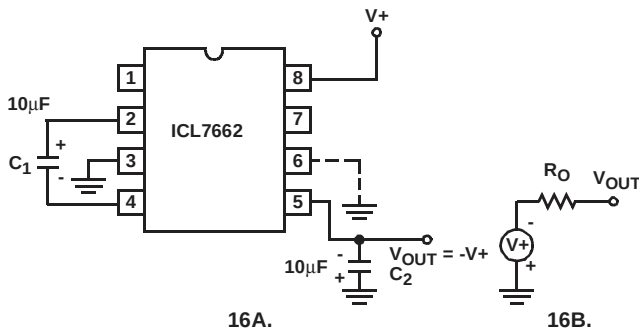

FIGURE 16. SIMPLE NEGATIVE CONVERTER AND ITS OUTPUT EQUIVALENT
The majority of applications will undoubtedly utilize the ICL7662 for generation of negative supply voltages. Figure 16 shows typical connections to provide a negative supply where a positive supply of +4.5V to 20.0V is available. Keep in mind that pin 6 (LV) is tied to the supply negative (GND) for supply voltages below 10V.
ESR also affects the ripple voltage seen at the output. The total ripple is determined by $2V$, A and B , as shown in Figure 16. Segment A is the voltage drop across the ESR of C_2 at the instant it goes from being charged by C_1 (current flowing into C_2) to being discharged through the load (current flowing out of C_2). The magnitude of this current change is $2 \times I_{OUT}$, hence the total drop is $2 \times I_{OUT} \times ESR_{C2}V$. Segment B is the voltage change across C_2 during time t_2 , the half of the cycle when C_2 supplies current the load. The drop at B is $I_{OUT} \times t_2 / C_2V$. The peak-to-peak ripple voltage is the sum of these voltage drops:
Figure 23 combines the functions shown in Figure 16 and Figure 22 to provide negative voltage conversion and positive voltage doubling simultaneously. This approach would be, for example, suitable for generating +9V and -5V from an existing +5V supply. In this instance capacitors C_1 and C_3 perform the pump and reservoir functions respectively for the generation of the negative voltage, while capacitors C_2 and C_4 are pump and reservoir respectively for the doubled positive voltage. There is a penalty in this configuration which combines both functions, however, in that the source impedances of the generated supplies will be somewhat higher due to the finite impedance of the common charge pump driver at pin 2 of the device.